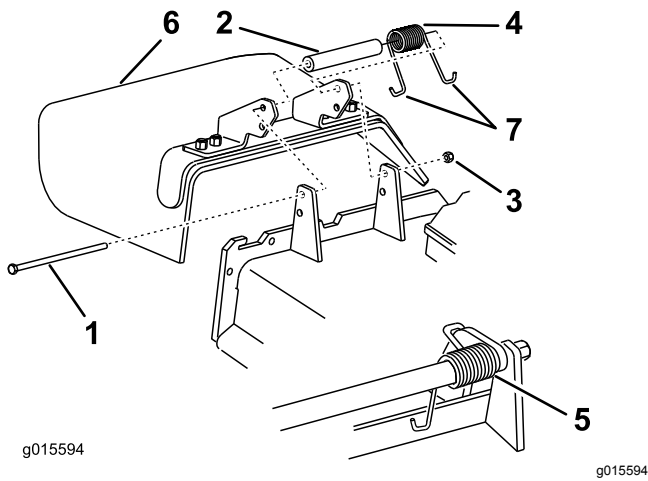

Figure 89
1. Remove the locknut, bolt, spring, and spacer holding the deflector to the pivot brackets (Figure 89).
2. Remove the damaged or worn grass deflector (Figure 89).
Note: Make sure that 1 J-hook end of the spring is installed behind the deck edge before installing the bolt as shown in Figure 89.
- Place 1 J-hook end of the spring around the grass deflector (Figure 89).